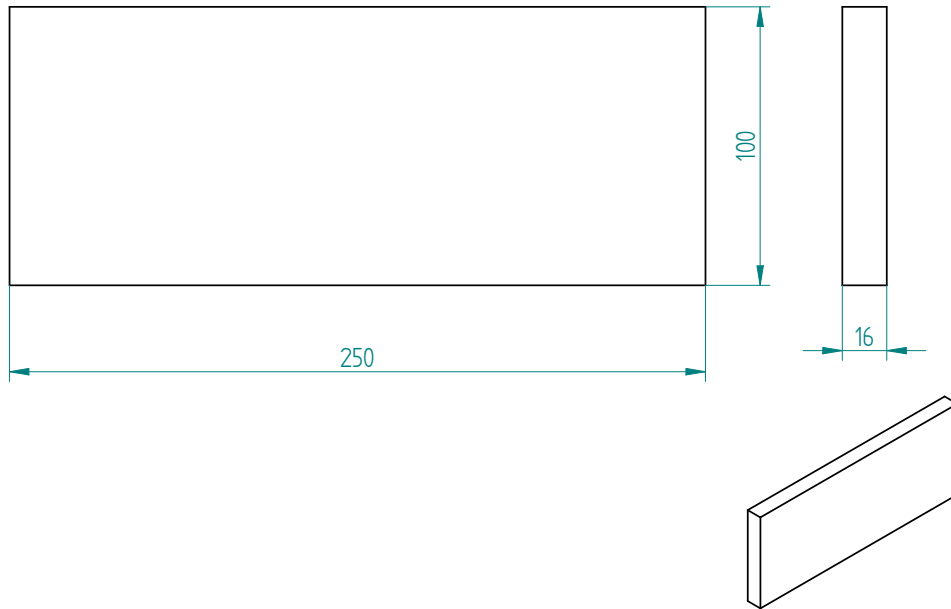

Figure A.4: Shaped part : **face-1-outsourcing** for **perpendicularator** tool
1. order the part in a joinery see figure A.4, page 164 for dimensions.